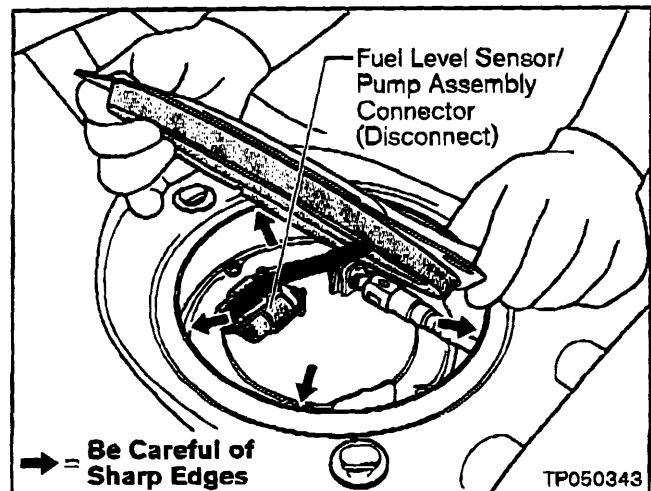

Figure 2b
- b. Then, lift the Cover UP and reach under and disconnect the Fuel Level Sensor/Pump Assembly Connector (see Figure 2b).
CAUTION: Be careful of the sharp edges around the Inspection Hole (see Figure 2b).